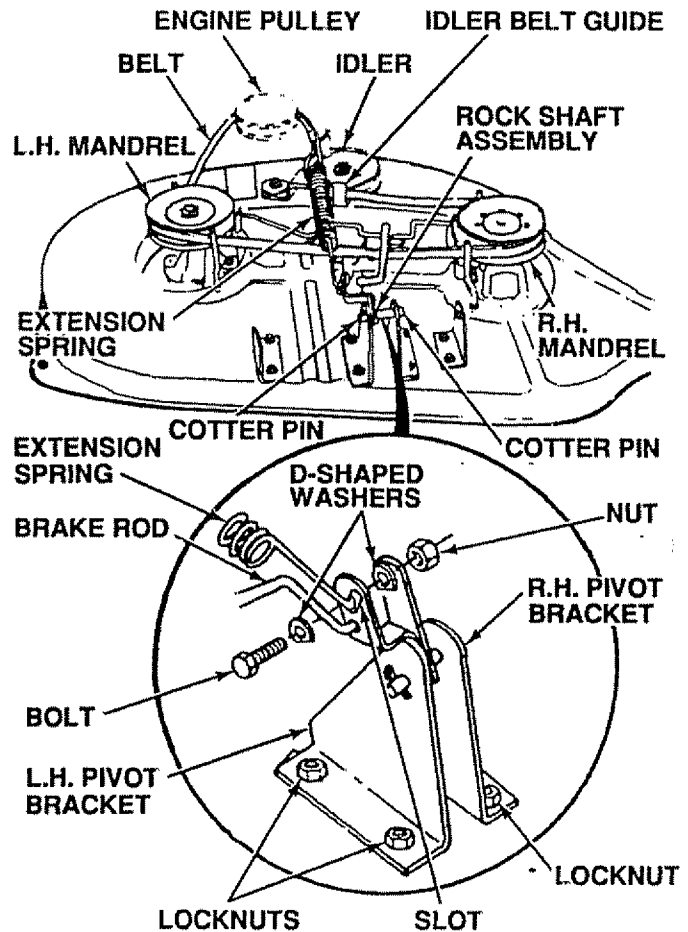

FIGURE 36
- a. Slide belt under extension spring (Fig. 36).
- b. Using (2) 7/16" wrenches, remove the bolt, nut & D-Shaped washers (Fig. 36 - inset).